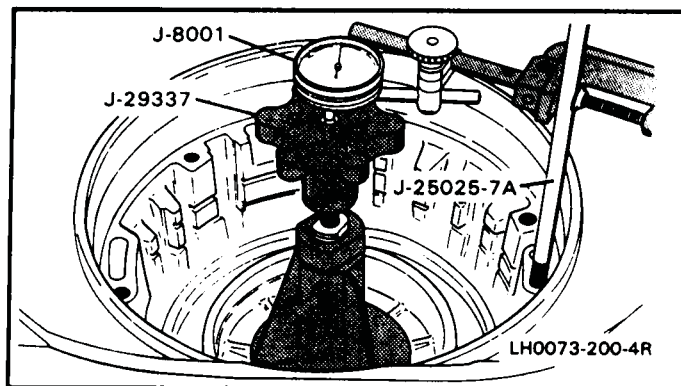

Figure 49
3. Install lifting tool J-29337 on forward clutch shaft, as shown in Figure 49.
4. Install dial indicator as shown in Figure 49.
6. Zero the dial indicator (See Figure 49).